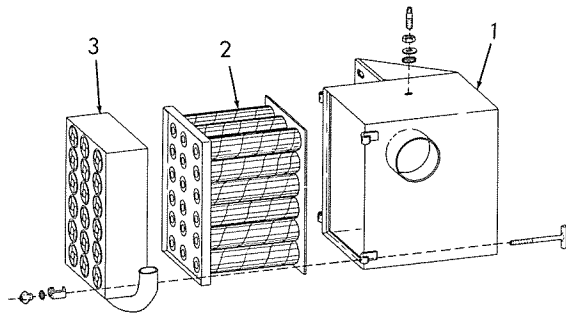

Fig. 1 — Air Cleaner (Type I)
Four types of air cleaners, as shown in Fig. 1, 2, 3, and 4 are used with the various engine applications.
1. DESCRIPTION OF AIR CLEANER (TYPE I) Fig. 1